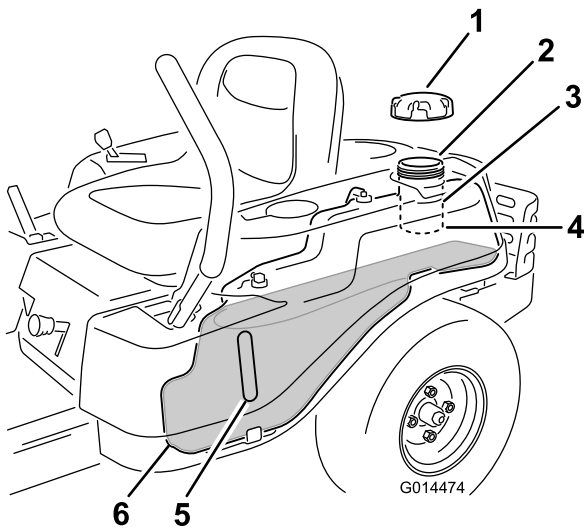

Figure 10
Note: You can use the fuel window to verify the presence of gasoline before filling the tank (Figure 10).
2. **Slowly** add regular, unleaded gasoline until the fuel reaches the base of the filler neck (Figure 10).